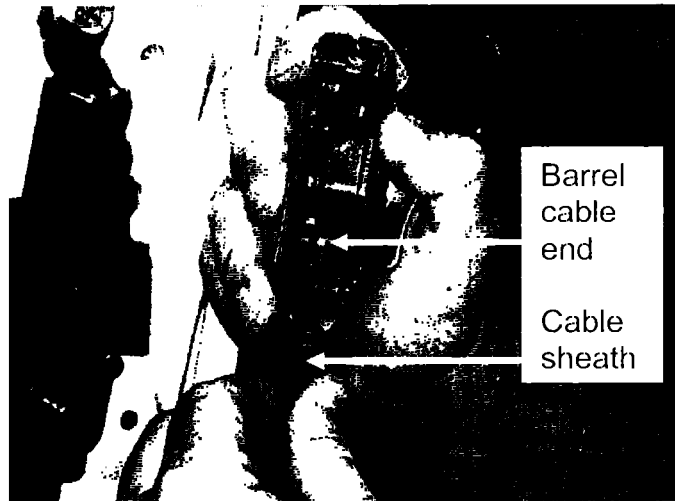

Figure 11
16. Remove cable sheath and barrel cable end from upper door latch (see Figure 11)